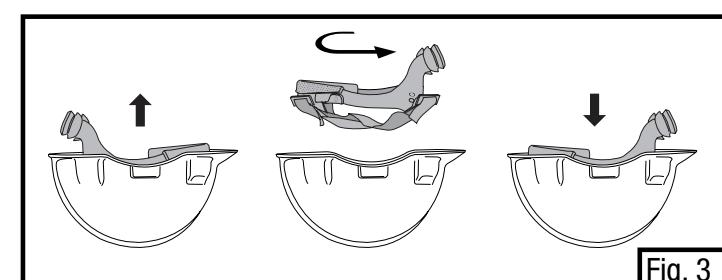

Fig. 3
- Assure to re-configure the head suspension in the hardhat to face the brim backwards as is shown in Fig. 3.